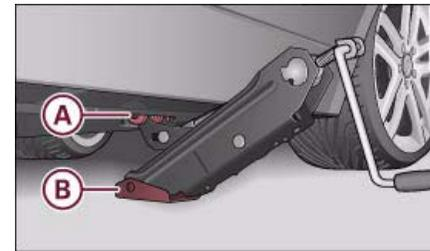

Fig. 129 Changing a wheel: Jack
- Align the jack so that the arm of the jack ⇒ fig. 129 **A** fits into the jacking point and the movable base plate of the jack **B** is flat on the ground.